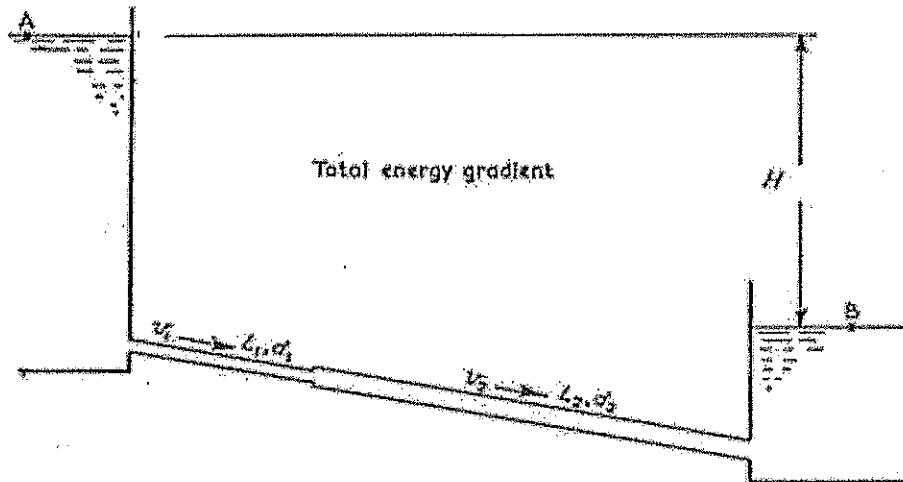

Figure 3/ Rajah 3
- b) Two reservoir as shown in **Figure 3** are connected by a pipeline which is 150 mm in diameter for the first 6 m and 225 mm diameter for the remaining 15 m. The entrance and exit are sharp and the change of section sudden. The water surface in the upper reservoir is 6 m from bottom. Friction coefficient for both pipe is 0.01.